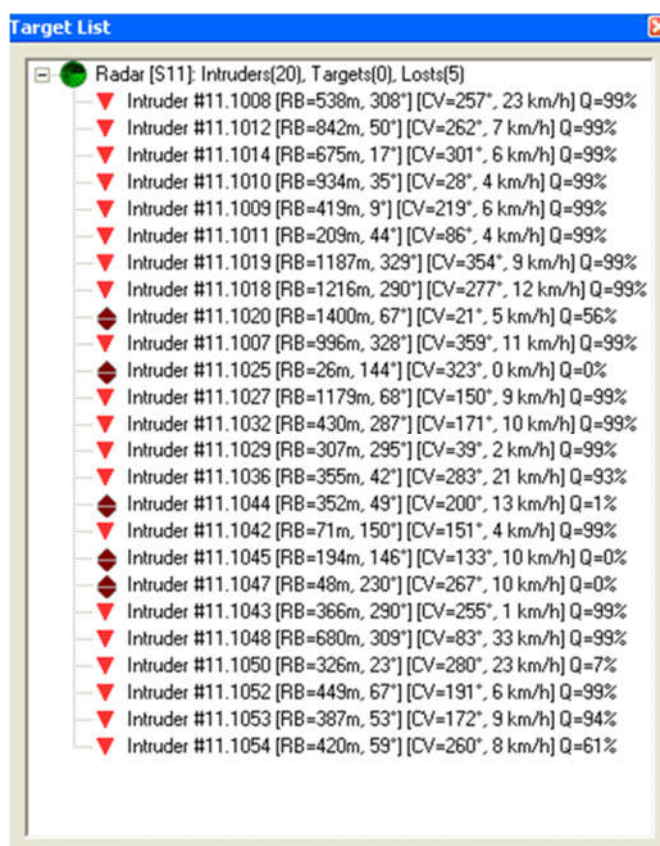

Figure 44 - Targets/Intruders Tree View
There are two alternate ways to **display** information on intruders and targets: the **List View** and the **Tree View**. These are enabled via the **Tools** menu **Targets/Intruders List View** (Figure 43) and **Targets/Intruders Tree View** (Figure 44) commands.
In the Targets/Intruders List View, left clicking with the mouse on any column will sort the targets and intruders based on the selected column. This view is limited to a total of twelve (12) targets and intruders. If there are more, they will not be listed in this view. For a complete view, use the **Targets/Intruders Tree View** (Figure 44).